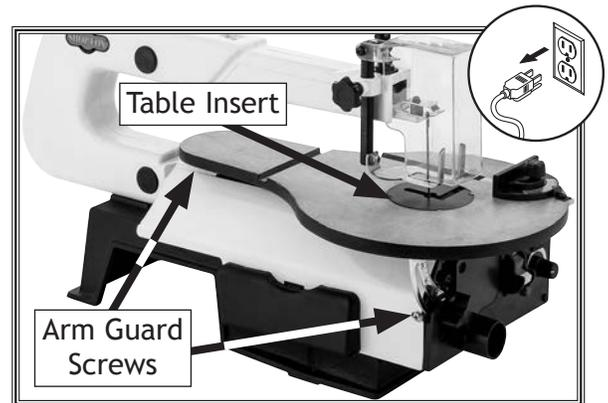

Figure 27. Table insert and arm guard.
4. Remove table insert, then use Phillips head screwdriver to remove screws from lower arm guard shown in Figure 27.